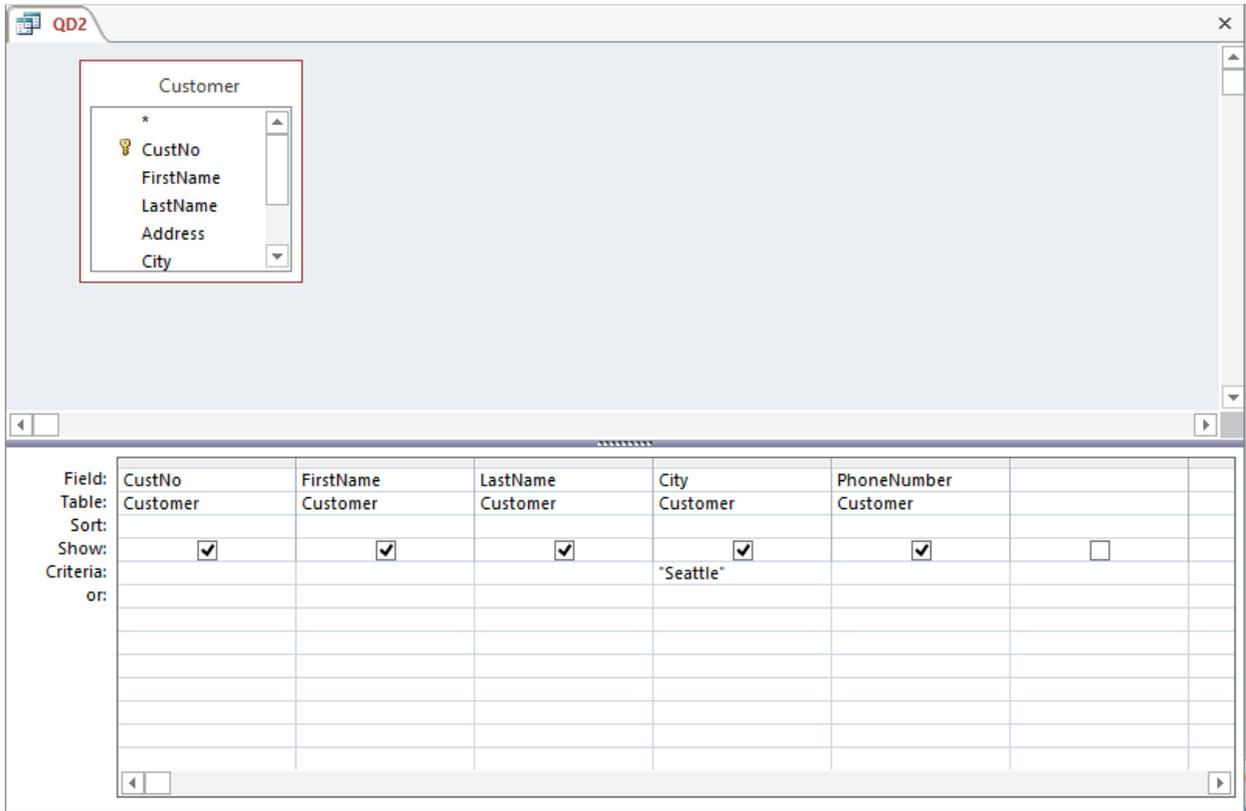

Figure 15: "QD2" with the "Seattle" Criterion
7. Enter a Condition: Next you will insert a condition to limit the list to only customers in Seattle. To accomplish this task, type in the *City* column and the *Criteria* row “Seattle”. Be sure to enclose it in double quotes (see Figure 15).